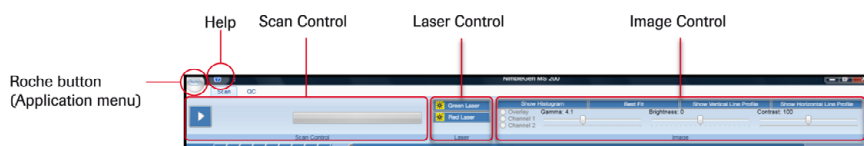
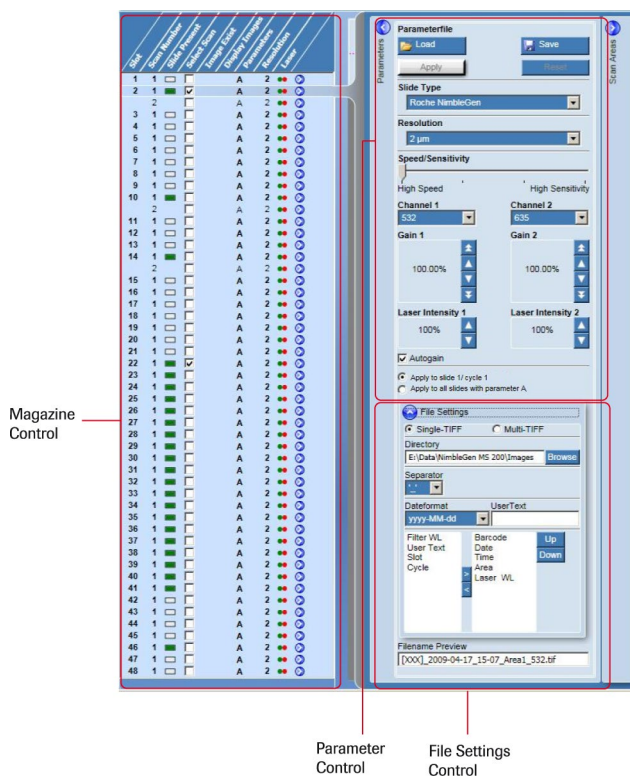

Figure 9: Top of Data Collection Workspace, showing Scan Control, Laser Control, and Image Control
Figure 10: Magazine Control, Parameter Control, and File Setting Control
- Turn on the lasers by clicking the **Green Laser** button in the Laser Control (Figure 9) pane.
- Confirm that the Magazine Control pane (Figure 10) displays a green box appears in the *Slide Present* field for each slide loaded into the slide magazine.
- Click the Roche button in the upper left-hand corner of the MS200 Data Collection Software window to display the Application menu (Figure 9).
- In the Sessions folder, select the AccuSNP.sessx file and open. This will add twelve (12) unique scanning cycles to each slide in the Magazine Control Window.
- In the Magazine Control pane (Figure 10) select the slides and arrays to be scanned.
7. If necessary, use the File Settings Control pane (Figure 10) to change the path to which the image files will be saved. The default path is *Computer>Data(E:)>Data>NimbleGen MS 200>Sessions*. To change the path, click **Browse** to open a dialog box to specify a location in the directory and click **OK** to confirm.
1. Click the **Start/Stop Scan** button (▶) in the Scan Control pane (Figure 9).